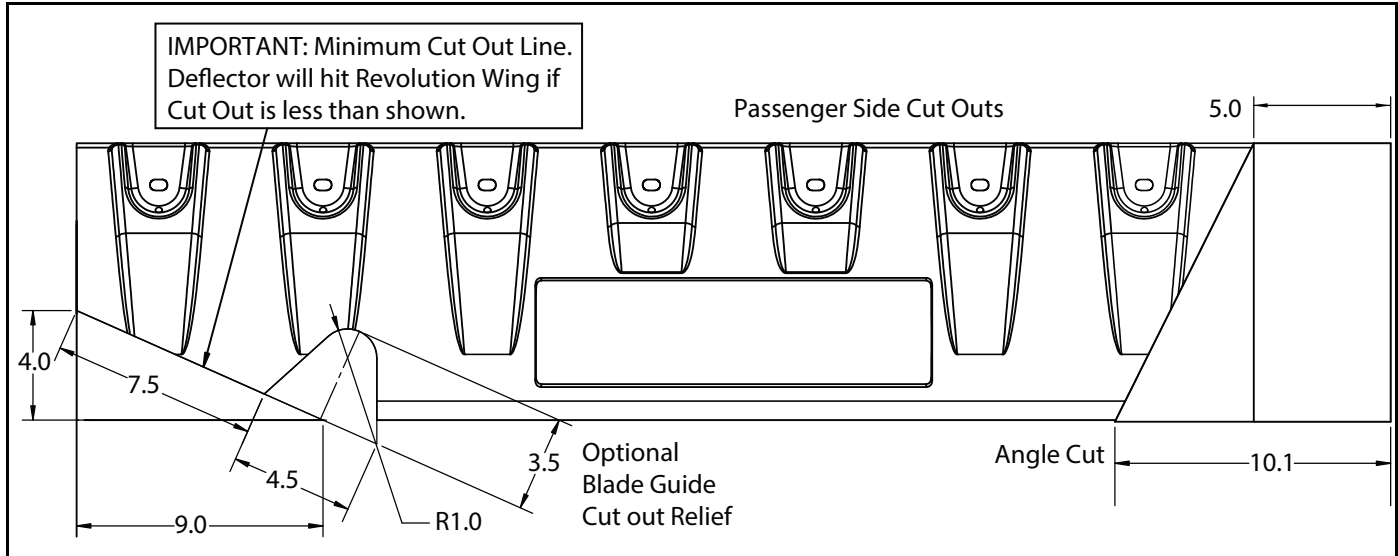

Figure 4
- **Passenger Side** (See Figure 4): Measure 5 in. on top edge and 10.1 in. on the bottom edge of deflector, and cut off the inner end (angle cut) of the deflector. Measure 4 in. on side edge and 9 in. on the bottom edge of deflector and mark a straight line. Cut along lines with a reciprocating saw to cut off outer end of the deflector. File edges smooth.
NOTE: For Optional Blade Guide Cutout Relief: Measure and mark locations for 7.5 in., 4.5 in., and 3.5 in., with a R1.0 radius as shown in Figure 4. Cut along lines with a reciprocating saw to cut off outer end of the deflector. File edges smooth.